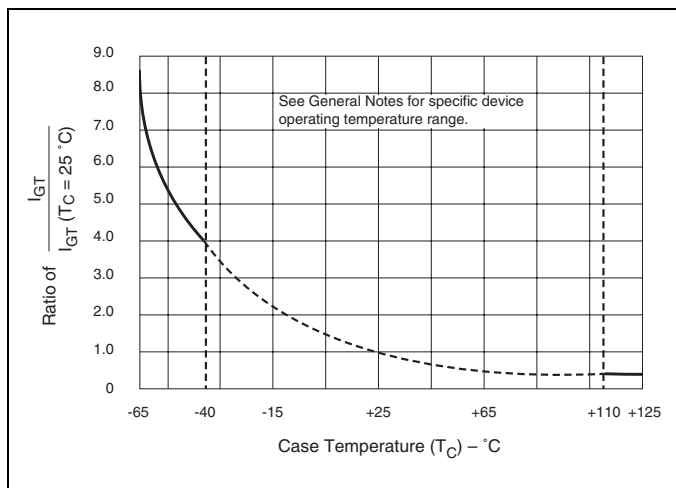

Figure E5.10 Normalized DC Gate-Trigger Current versus Case Temperature
- See Figure E5.10 for I_{GT} versus T_C or T_L.